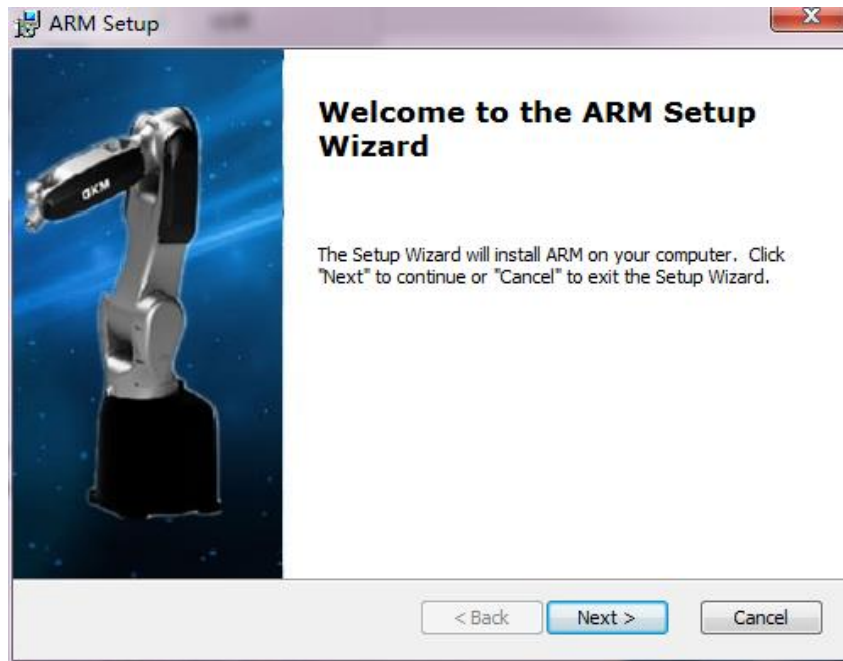

Figure 6-2 Start installation
Step 2 Double-click the left button to install the software, as shown in Figure 6-2.